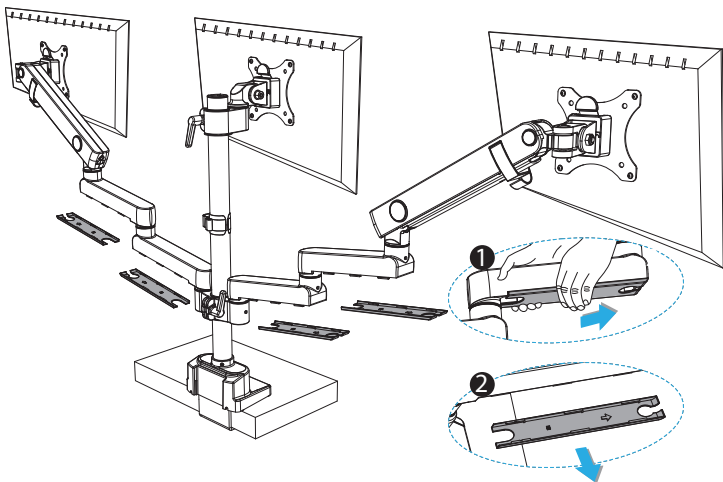

Figure 21
1. Gently **Slide** and **Pull Away** as indicated by the **Arrows** to remove the **Cable Management Covers** located under the **Swivel Arms**. (Figure 21)